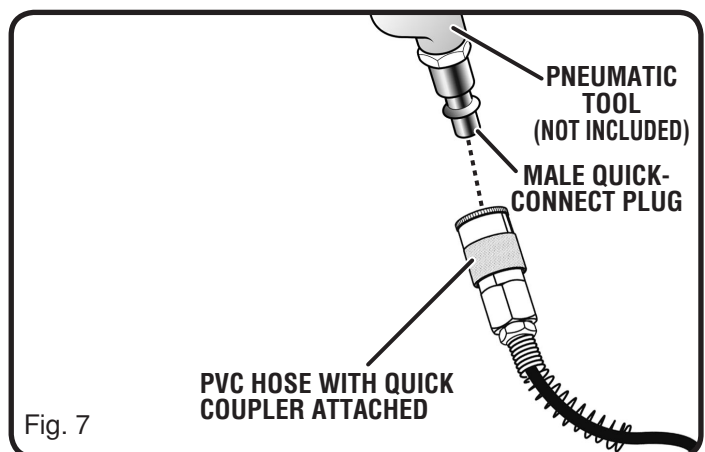

Fig. 7
- Connect the air powered tools to the air hose by inserting the male quick-connect plug to the quick-coupler at the end of the hose (see Fig. 7).
- Turn the ON/OFF switch to the **ON (I)** position.